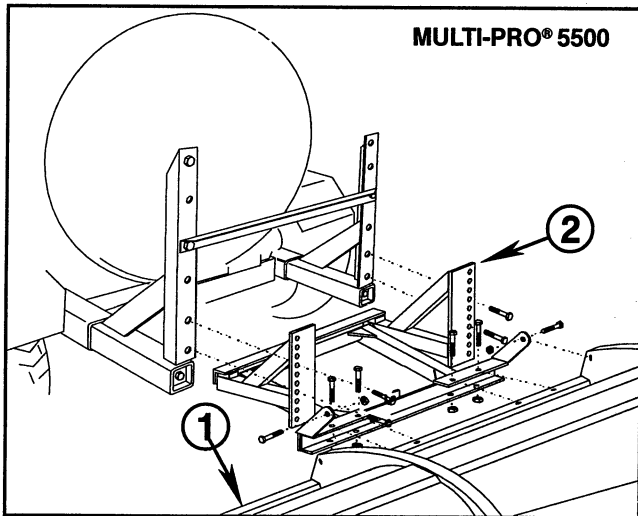

FIG. 4a
1. Assemble Boom Mount onto the Center Boom as per FIG. 4 using the (6) 1/2" x 3" hex hd. cap screws and lock nuts. FIG. 4a.
**MULTI-PRO® 5500** - Align the bottom holes in Boom Mount Assemblies with the fourth and seventh holes from the bottom on the Boom Mount. Secure with (4) 1/2" x 1-1/4" hex hd. cap screws and lock nuts. (FIG. 4a)